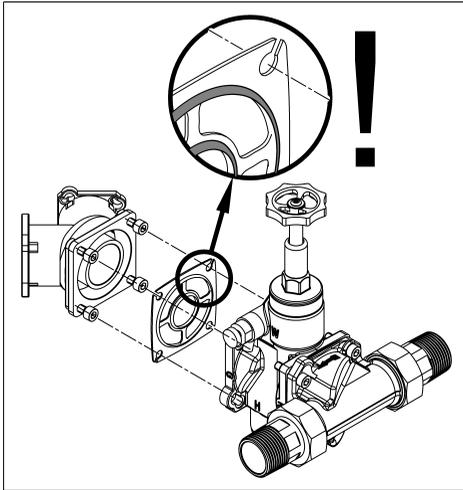

Fig. 7: Profile flange seal
- Check whether the profile of the profile flange seal is pointing toward the bypass valve (see fig. 7).